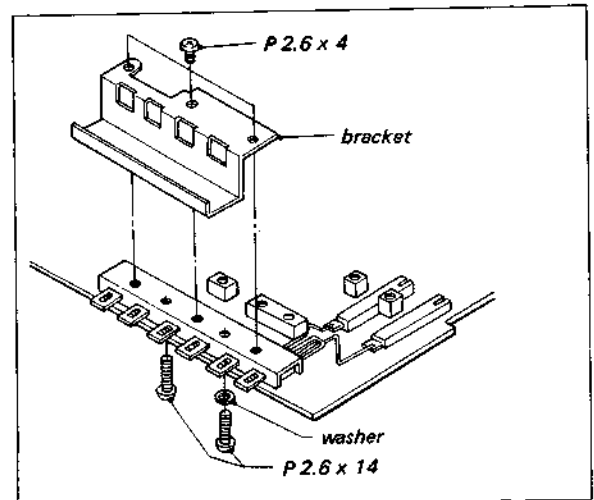

Fig. 2-10. 6-key pushbutton switch replacement
2. Remove the switch bracket by taking out the three screws shown in Fig. 2-10.
3. Remove the two screws from the bottom as shown in Fig. 2-10.